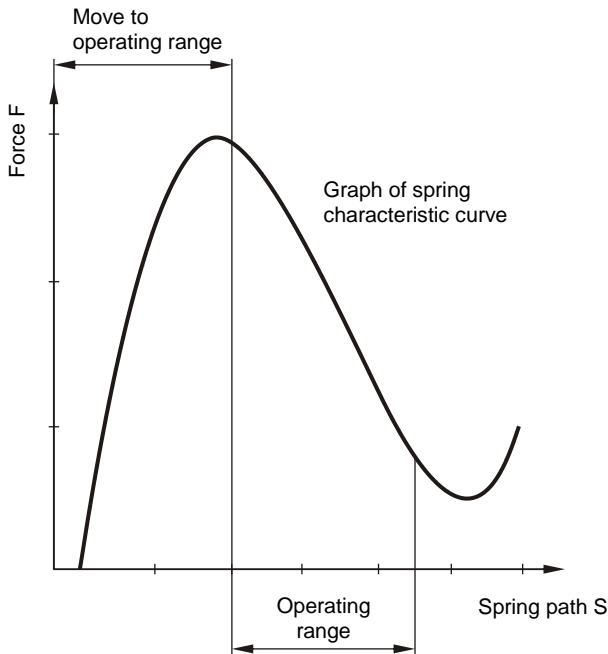

Fig. 10
The installed cup springs (9) are operated in the negative range of the characteristic curve (see Fig. 10); this means that a stronger pre-tensioning of the cup spring results in a decrease of the spring force.
- Counter (secure) set screws (14) (6 pieces) again using hexagon nuts (15).
Adjusting the adjusting nut (4) or distorting the cup spring (9) outside of the cup spring characteristic curve (see Fig. 10) stops the clutch functioning.